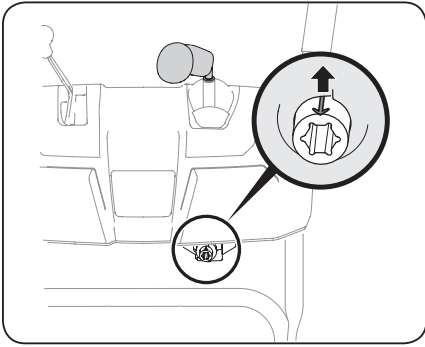

Figure 2-25
5. Rotate joystick to one o'clock position so that silver indicator arrow on pinion gear below control panel faces upward. See Figure 2-25.